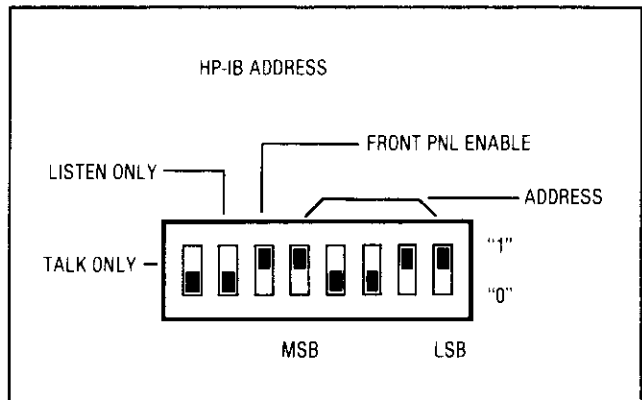

Figure 2-3. HP-IB Address Switch Shown as Set by the Factory
- e. Set the switches to the desired HP-IB address (in binary) or the Talk Only or Listen Only setting. The switch is illustrated in Figure 2-3. If both the Talk Only and the Listen Only switches are set to "1", the Talk Only setting overrides the Listen Only setting. Setting the address switch to Talk Only or Listen Only selects a unique HP-IB address; Talk Only = 50, Listen Only = 40. Talk Only and Listen Only are used when the Signal Generator is in a master/slave configuration. See the Detailed Operating Instructions in Section 3 for more information.